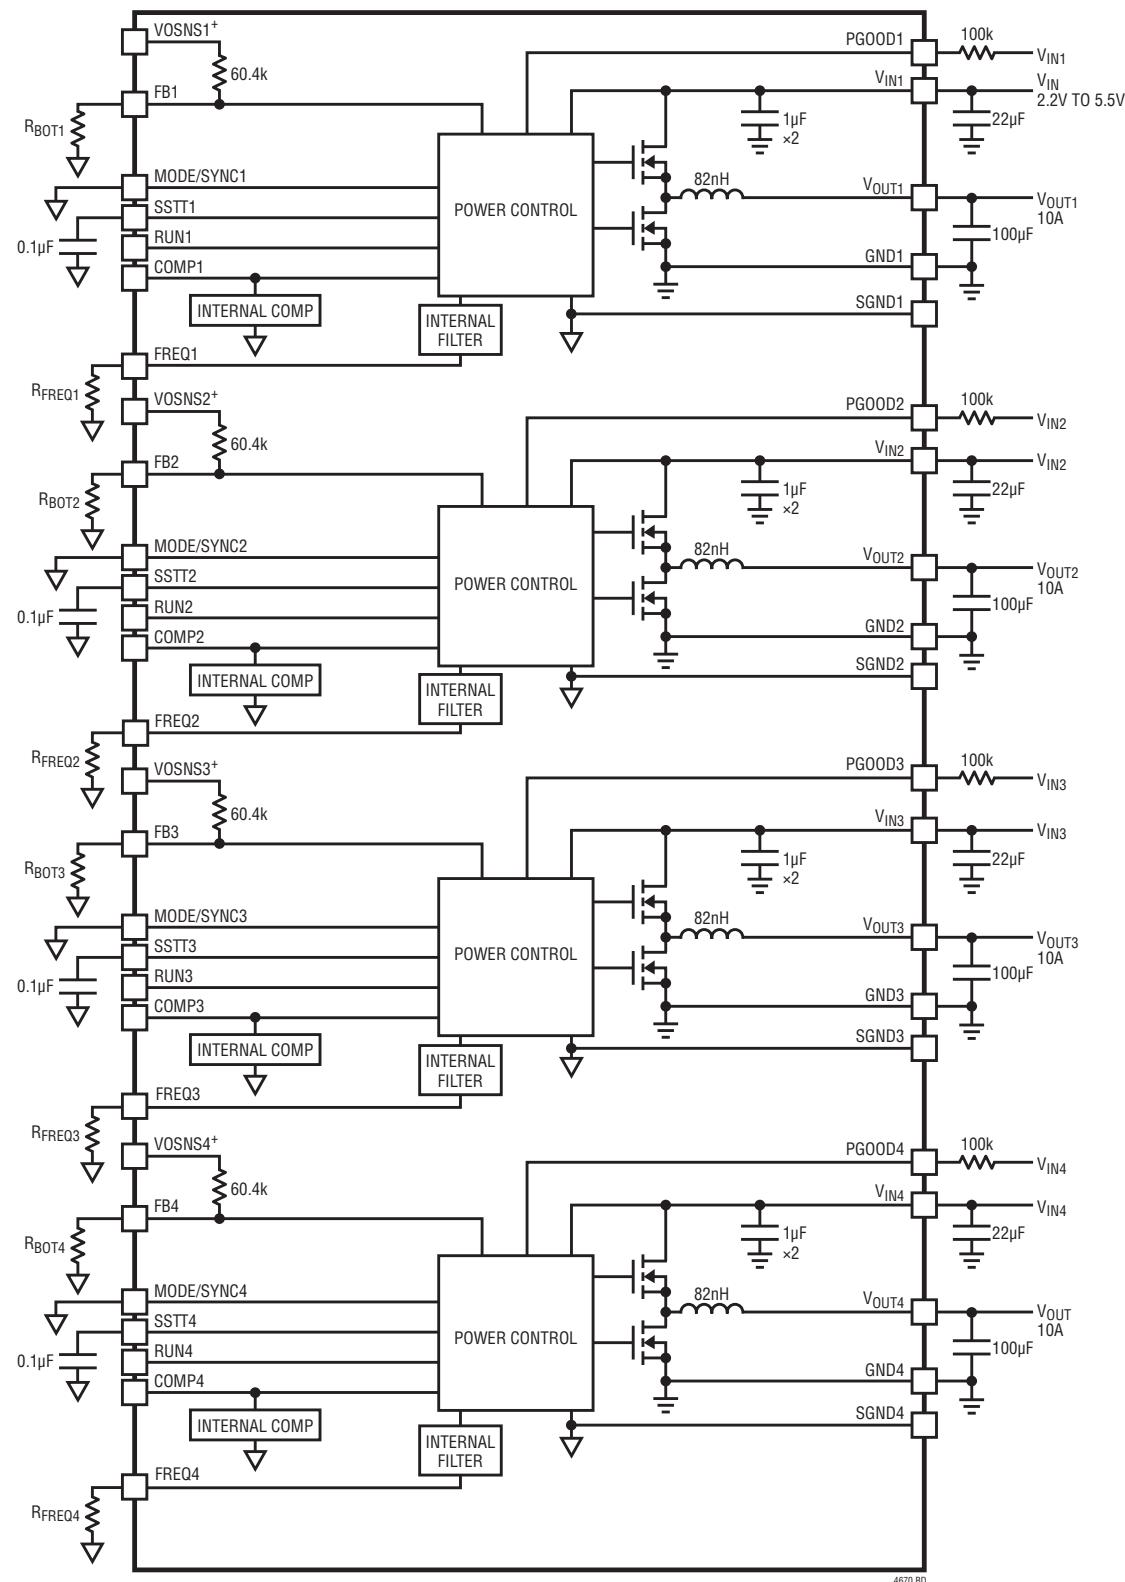

Figure 1. Simplified LTM4670 Block Diagram
**VOSNS1+ (A9), VOSNS2+ (E9) VOSNS3+ (K9), VOSNS4+ (P9):** Output Voltage Sense Pin of Each Switching Mode Regulator Channel. Internally, this pin is connected to FB pin with a 60.4k precision resistor so only a RBOT is needed to set the output voltage as shown in the Block Diagram in Figure 1. An external divider on FB can be used to set the output voltage if VOSNS+ pin is left open. In multi-phase application, VOSNS+ pins need to be left open for the subordinate channels so FB pins can be tied high. (See the Applications Information section for details.)
The PWM controller has an internal 0.5V reference voltage. As shown in the Figure 1 (Block Diagram), a 60.4k internal feedback resistor connects each regulator channel from VFB to VOSNS+ pins which should be directly connected to VOUT. Adding a resistor RBOT from FB pin to SGND pin programs the output voltage (Equation 2)